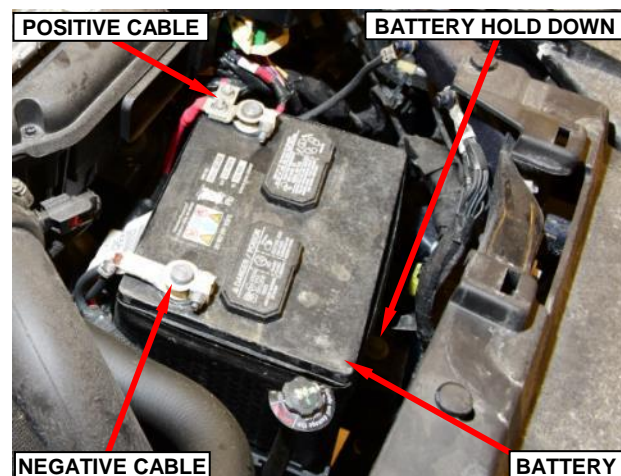

Figure 6 – Battery
14. Disconnect and isolate the battery negative cable then the positive cable (Figure 6).
15. Loosen the battery hold down bolt (Figure 6).
16. Remove and save the battery (Figure 6).